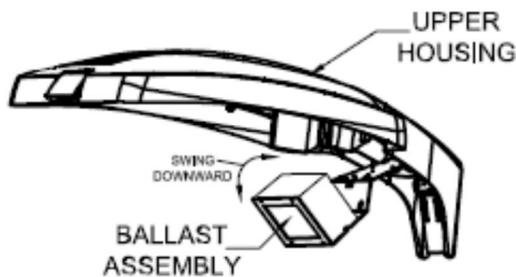

FIGURE 3
3. REMOVE BALLAST ASSEMBLY BY REMOVING SCREWS AND LETTING BALLAST ASSEMBLY SWING DOWNWARD. UNHOOK HINGE FROM BALLAST ASSEMBLY AND DISCONNECT WIRES, SEE FIGURE 3.